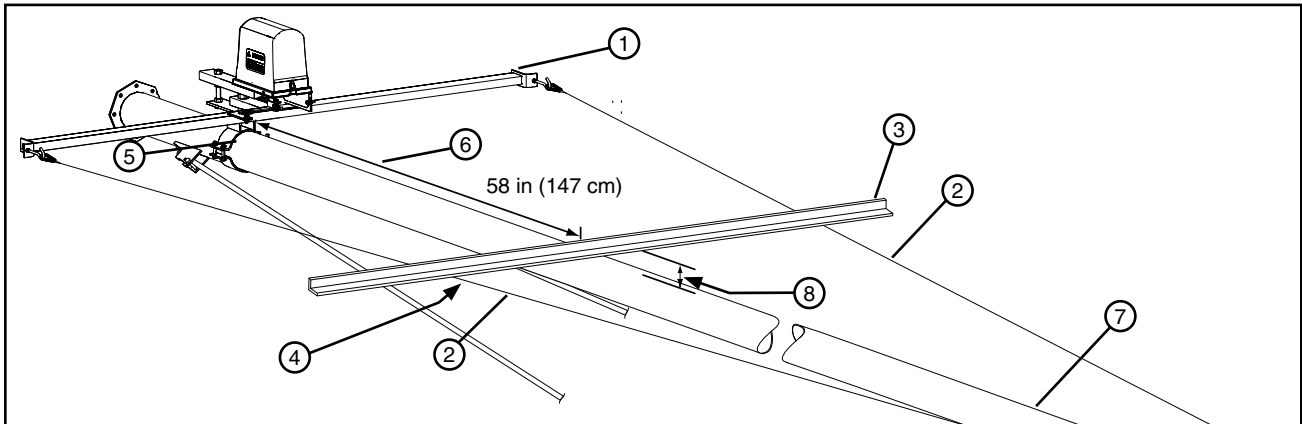

Figure 91-1 1. T-Bar
2. Position the truss spreader across the safety cables at approximately 58 in (147 cm) from the alignment mounting bracket. See figure 91-1.
3. Hold and support the truss spreader across the safety cables and measure the distance from the truss spreader to the span pipe. This is the ORIGINAL measurement. See figure 91-1.